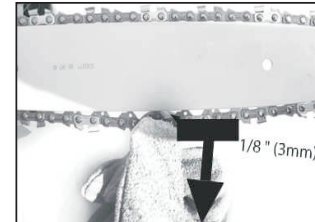
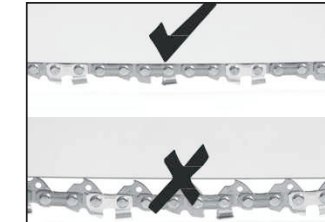

Fig.22A
Fig.22B
c) With the saw on a firm surface, check the saw chain tension. The tension is correct when the chain snaps back after being pulled 1/8 inch (3mm) away from the guide bar with light force from the middle finger and thumb as shown in figure (Fig.22A). There should be no "sag" between the guide bar and the chain on the underside as shown in figure. (Fig.22B)